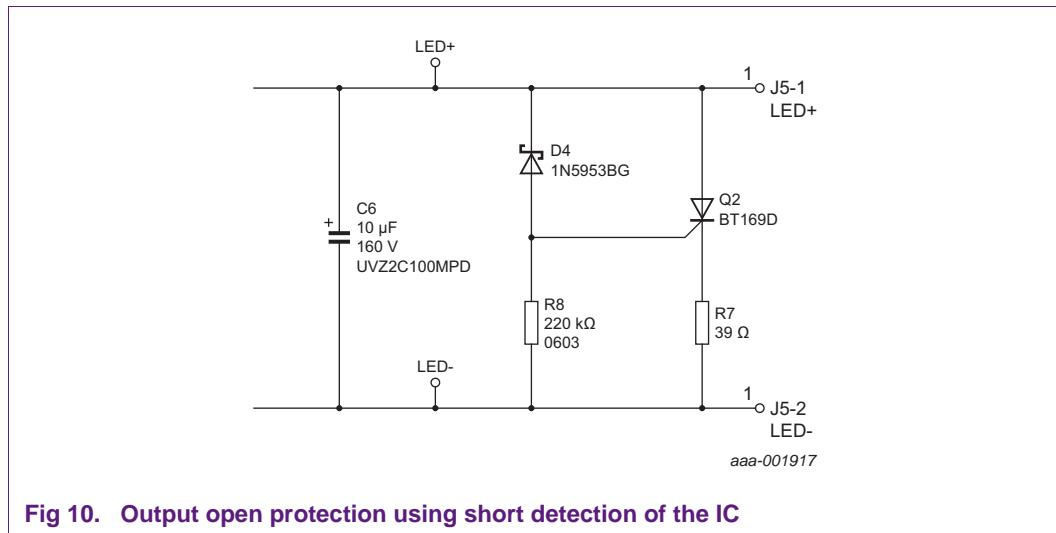

Fig 10. Output open protection using short detection of the IC
1. Using the ICs output short detection. When there is overvoltage, the output can be shorted below a level where valley is not detected anymore. As a result, the IC enters latched protection after a certain time ($t_{det(sc)}$). Figure 10, shows a possible implementation.